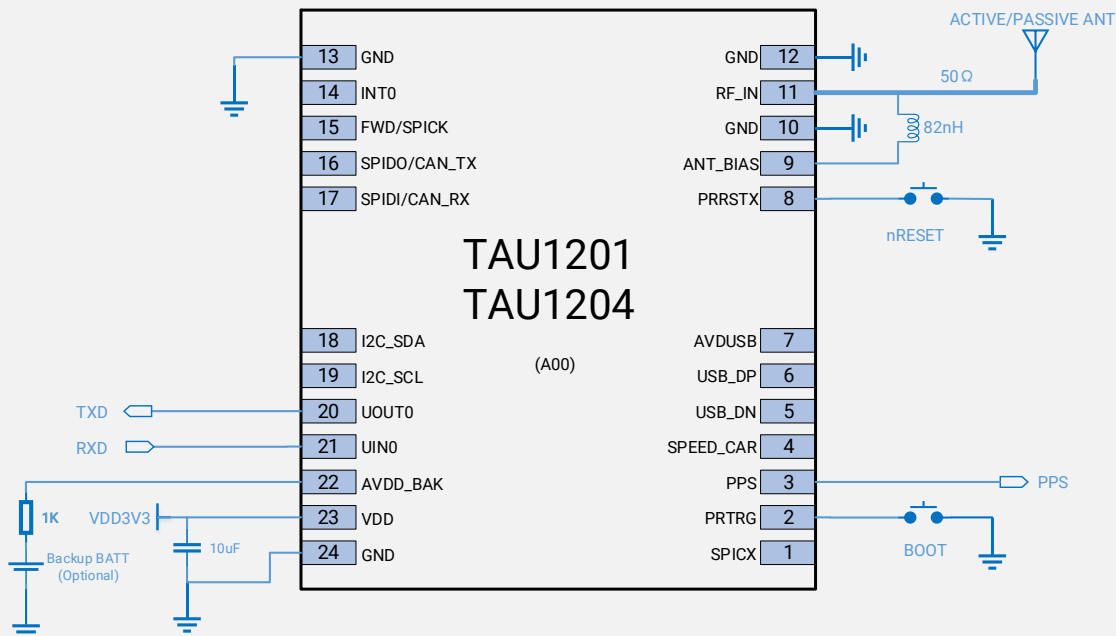

Figure 5 Minimal application diagram of A00 with internal power for ANT
- In A00 design, RF_IN pin does not provide the power for active antenna, so a bias choke of 82nH from ANT_BIAS to RF_IN pin should be used. (Refer to **Figure 5**)